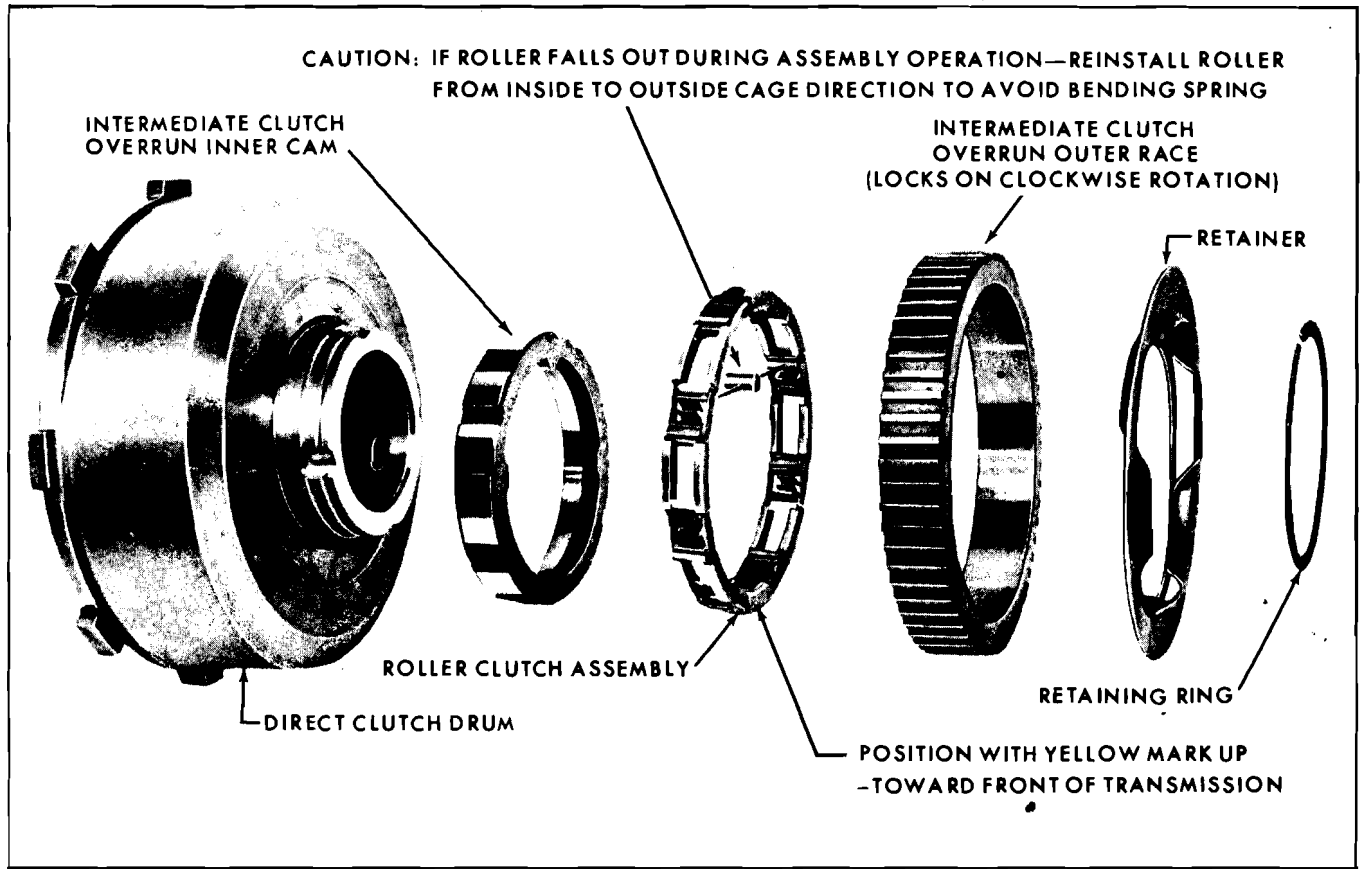

Fig. 7G-70 Exploded View of Intermediate Overrun Clutch Assembly
5. Inspect overrun clutch inner cam and outer race for scratches, wear or indentations (Fig. 7G-70).
7. Inspect clutch drum for wear, scoring, cracks, proper opening of oil passages, wear on clutch plate drive lugs and free operation of ball check (Fig. 7G-71).
a. With direct clutch drum properly supported, remove bushing (Fig. 7G-72).
b. Using Bushing Tool J 23062-4 and Drive Handle J 8092, install new bushing $9/32''$ below clutch plate side of hub face (Fig. 7G-73).